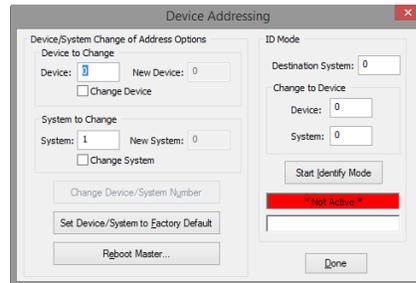

FIG. 4 NETLINX STUDIO - DEVICE ADDRESSING DIALOG
- Select **Diagnostics > Device Addressing** to assign a System Value via the *Device Addressing* dialog (FIG. 4):